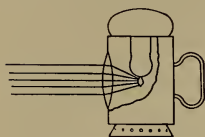

FIGURE 115.—A
**148. The Dark Lantern.** — A good example of the converging lens with the object at  $F$  is the dark lantern. (Figure 115.)